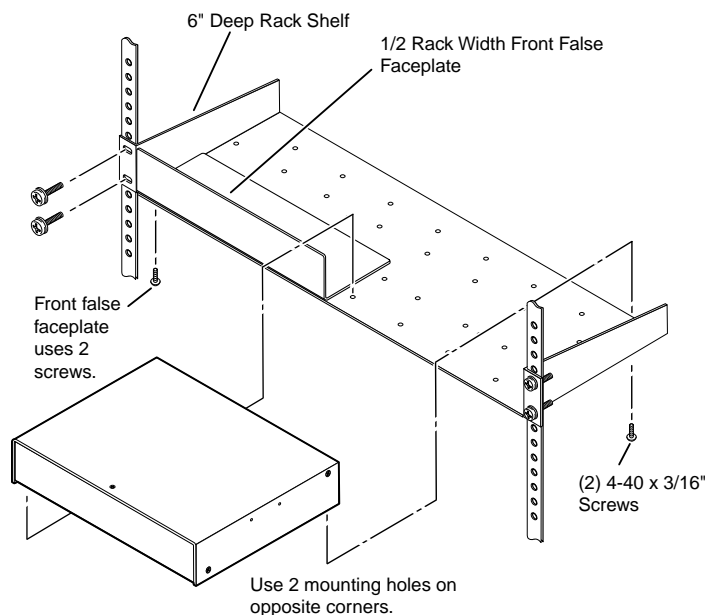

Figure 4. Mounting the switcher unit on a 6-inch deep rack shelf
- RSU 126 6-inch deep universal rack shelf kit (part #60-190-10) (figure 4)